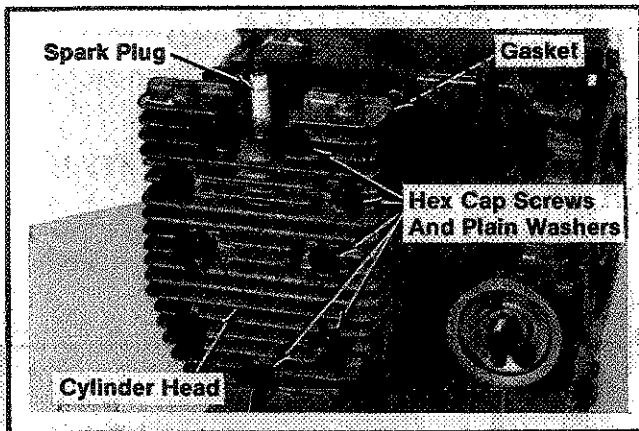

Figure 9-22. Removing Spark Plugs And Cylinder Heads.
2. Remove the hex cap screws, plain washers, cylinder heads, and gaskets. Refer to Figure 9-22.